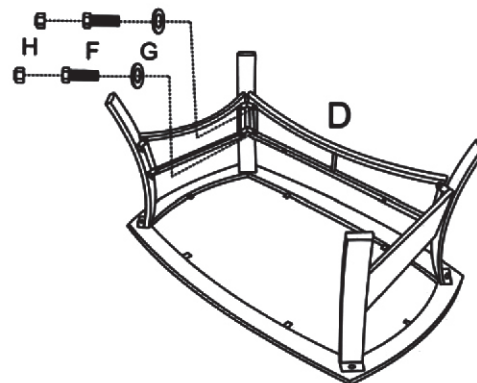

Figure 4
Step 5. Then assemble one of the long leg connector (D) to the table legs (B) with bolts (F) and washers (G) by using open wrench(I) as shown in figure 4.